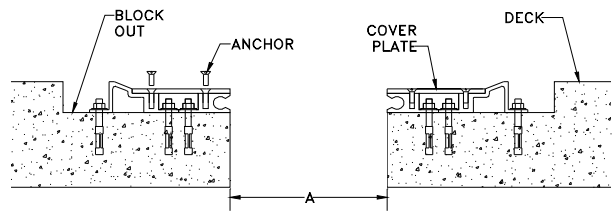

Figure 7
STEP 3. Select a Cover Plate and the Cover Plate Anchors. Place the Cover Plate into its installed so that the anchor holes in the Cover Plate are aligned with the channels in the SCP1 and the corresponding SCP3, and so that the Cover Plate spans the gap between the SCP1 and its corresponding SCP3. Using the anchors provided by the factory, attache the Cover Plate to the SCP1 and the SCP3 (Figure 7). Repeat this procedure for Cover Plate on the opposite side of the joint.